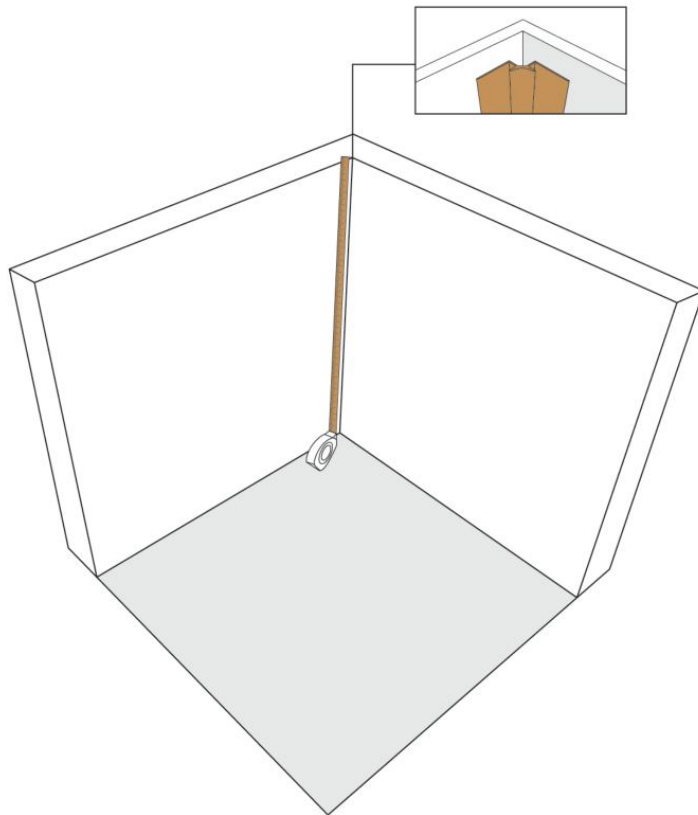

Fig.1
- Measure the vertical height from floor to ceiling at the corner.(Fig.1)